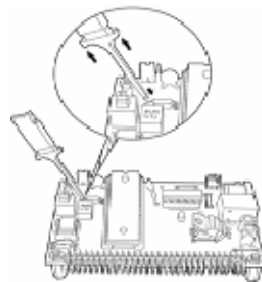

Fig.2-9
- 3-3. Place the metal prongs on a metal connector on the testing board and release the fingers so that the prongs can grip the metal connector (Fig. 2-9).